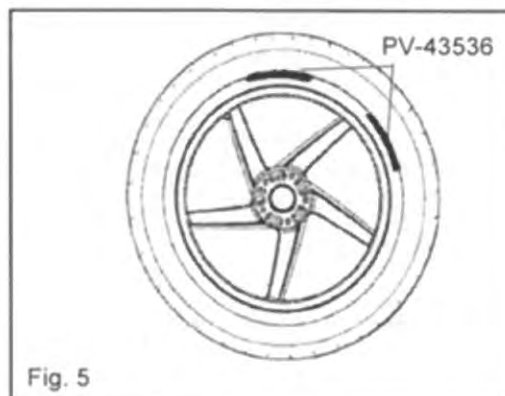

Fig. 5
7. Install rim protectors at 12:00 and 2:00 positions. (Fig. 5)